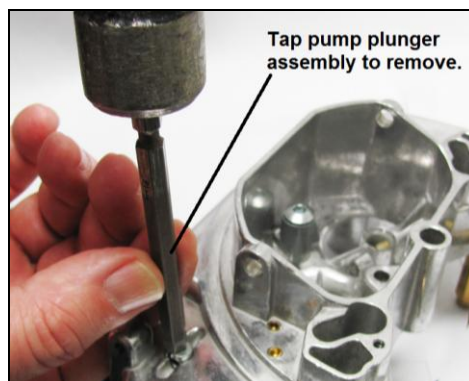
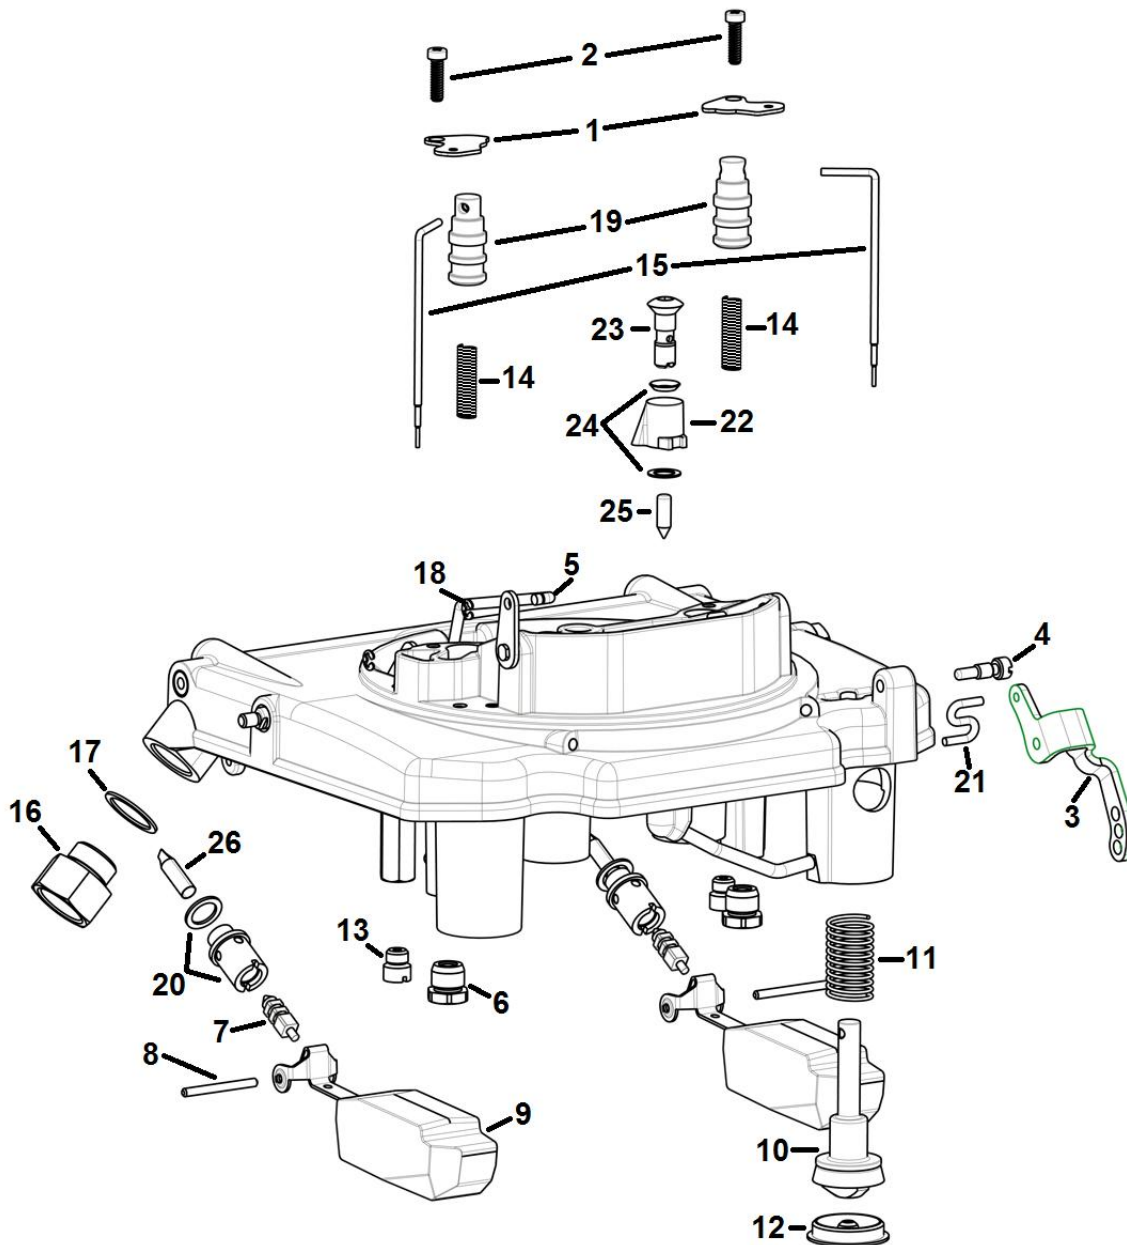

**Figure 1**
Figure 10
**NOTE:** Numbers in parentheses refer to the exploded views in Figures 10 & 11.
1. Remove the choke shaft / lever assembly (5). Remove step up piston cover screws (2) and step-up piston cover (1). Remove the step up pistons (19), metering rods (15), and springs (14) as an assembly. Metering rods (15) may be removed from the piston (19), if desired.
2. Remove the pump lever connecting rod (32), c-clips (31), choke connector rod (42), c-clip (31), and cotter pin (46). Remove the 8 assembly screws (36).
3. Lift the air horn straight up from the fuel bowl to avoid damage to the parts attached. Remove the float pins (8), floats (9), and fuel needle seat and gasket assembly (20), and strainers (26). Remove the air horn gasket (28).
4. Separate the fuel bowl from the throttle body. Remove the choke cap retainer screws (41), choke cap retainer (40), choke cap assembly (39), and choke cap gasket (38).
5. Remove the throttle body gasket (34). Set the throttle body (35) and fuel bowl assembly (30) aside for cleaning.
6. Remove the pump lever screw (4), pump lever (3), and pump "S" link (21) from the end of the plunger stem (Fig. 1). Remove the fuel inlet fitting (16) and gasket (17).